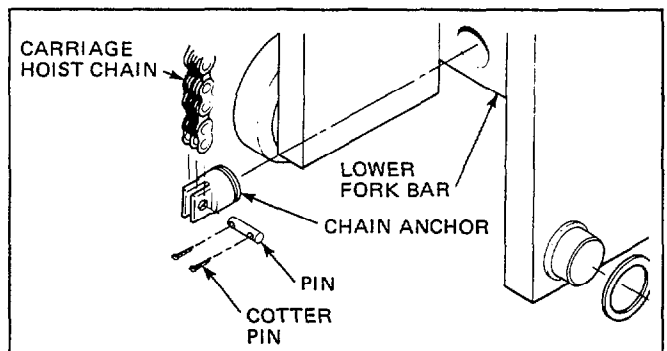

Figure 31. Carriage Hoist Chain Anchor
2. Remove the pins that secure the carriage hoist chains to the chain anchors located on the lower fork bar. See Figure 31.